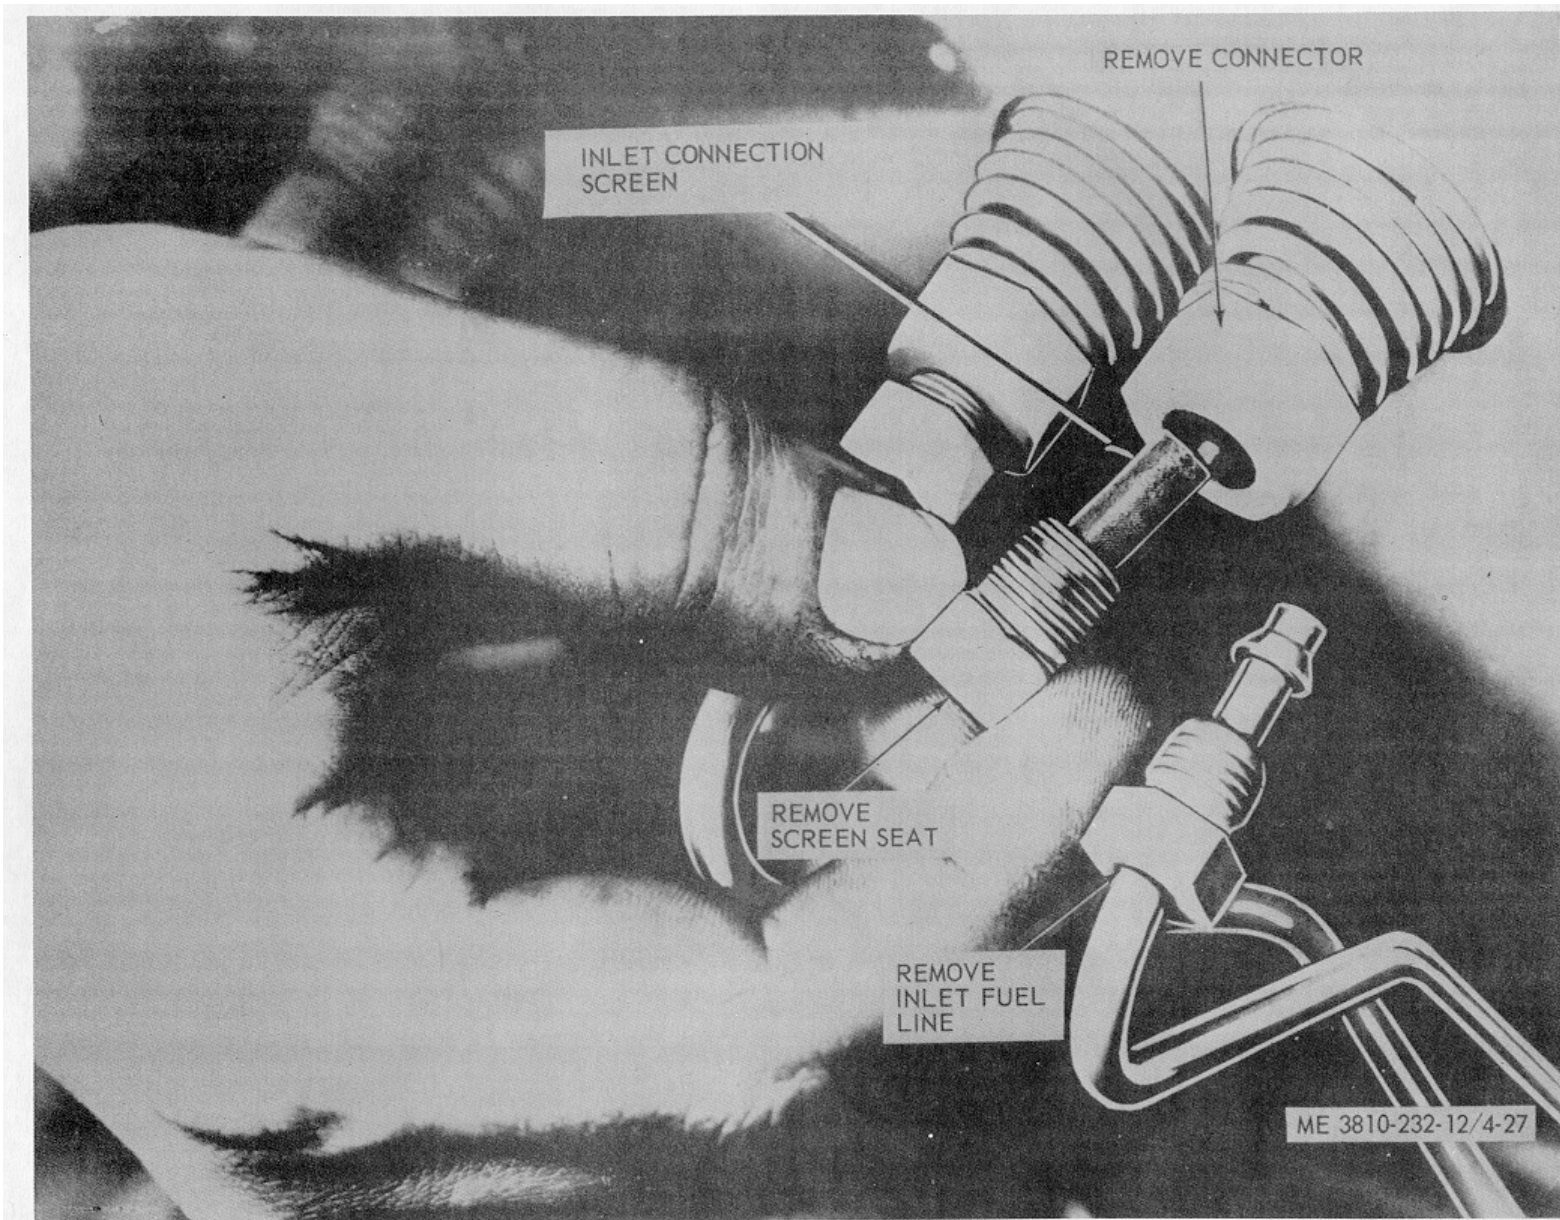

Figure 4-27. Fuel inlet connector screen, removal and installation.
(1) Remove inlet screen from each inlet fuel connector as illustrated in figure 4-27.
(2) Clean screens and dry thoroughly.
(3) Install screen as illustrated in figure 4-27.
b. Removal and Disassembly. Remove and disassemble fuel inlet and drain connectors as illustrated in figures 4-27 and 4-28.
d. Reassembly and Installation. Reassemble and install fuel inlet and drain connectors as illustrated in figures 4-27 and 4-28.